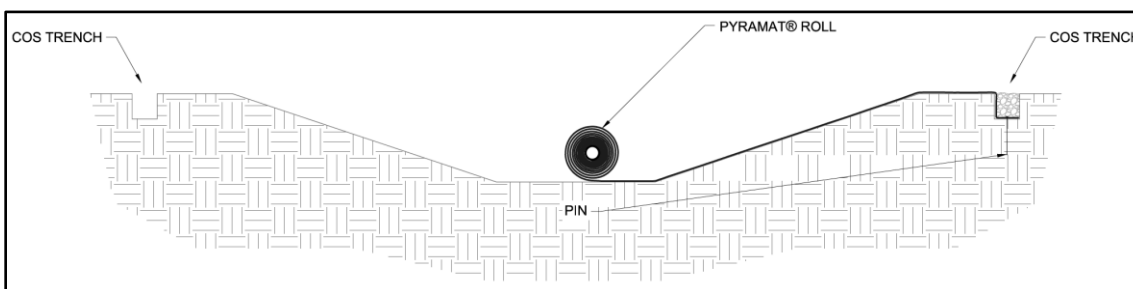

Figure 10: Perpendicular Placement of PYRAMAT across Channel
9. Unroll the PYRAMAT roll on the channel surface in the area to be armored. (Figure 10) Ensure that PYRAMAT has intimate contact with the ground and all irregular surfaces beneath PYRAMAT are removed.